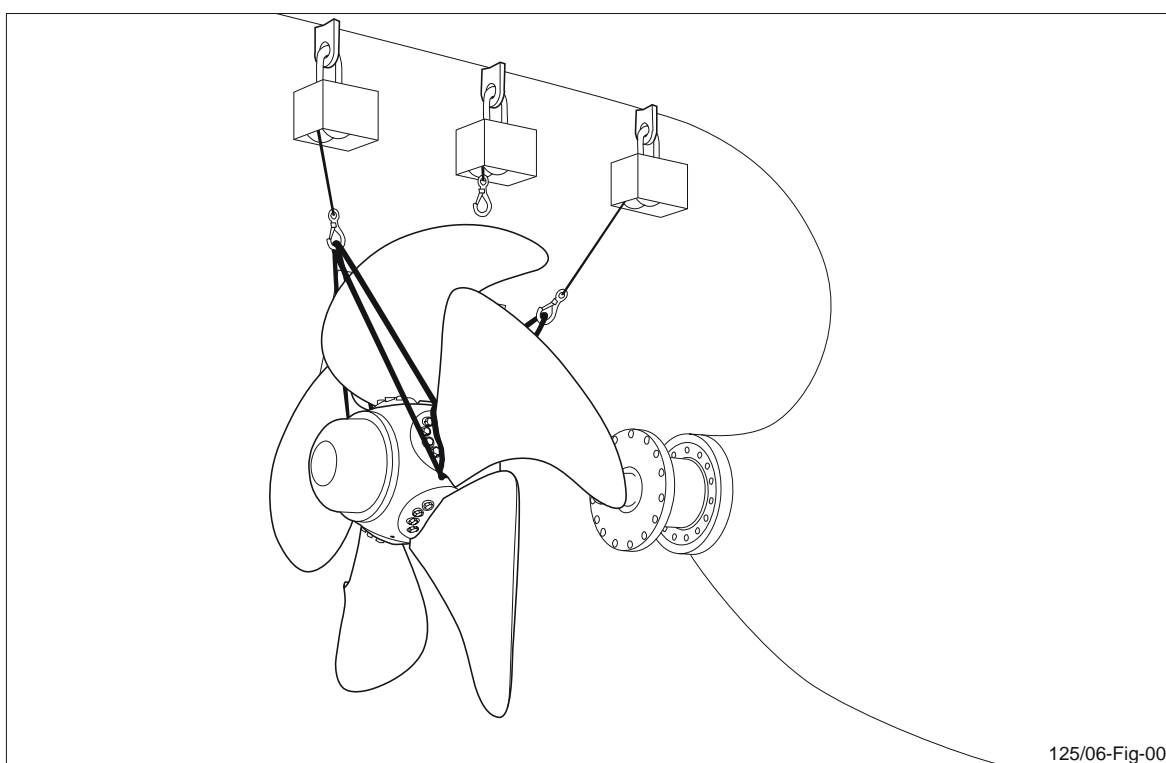

Figure 3 Lifting a small sized propeller hub with mounted blades using soft slings.
- It is also possible to lift and install the hub with the propeller blades mounted. Soft slings are fitted around the blade feet to keep the soft slings in place during the lifting and installation process, see figure 3.